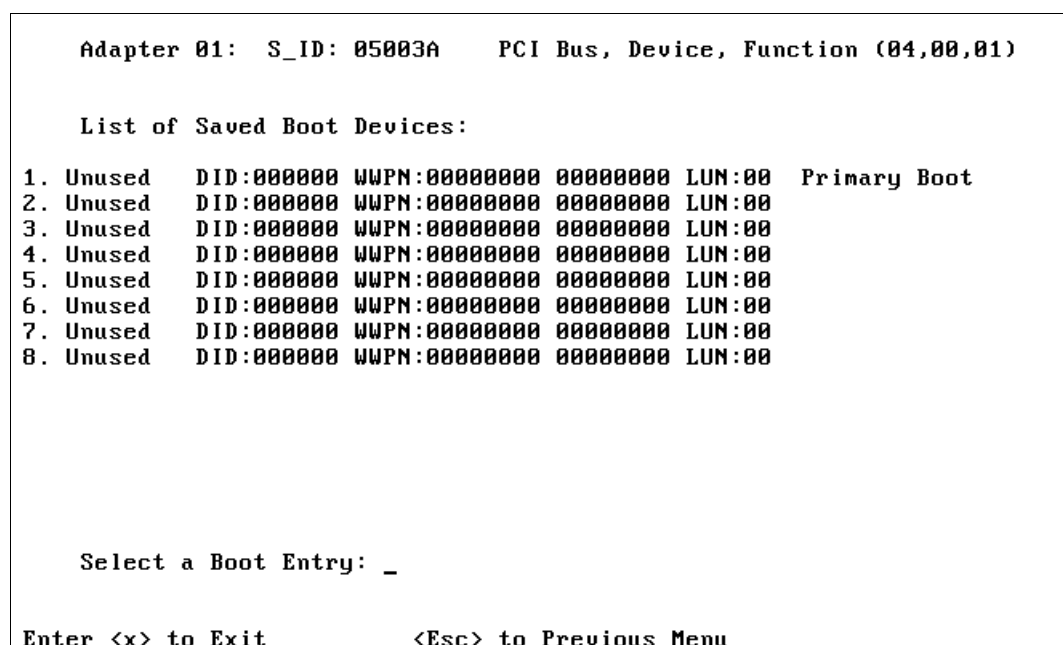

Figure 3-32 Saved Boot Devices
10. Enter Boot Entry number of the first Unused boot device (Primary Boot), from the List of Saved Boot Devices, as shown in Figure 3-32.